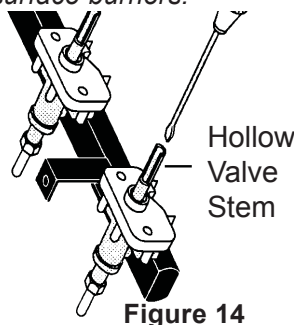

Figure 14
- Insert a thin-bladed screwdriver into the hollow valve stem and engage the slotted screw inside. Flame size can be increased or decreased with the turn of screw. Turn counterclockwise to increase flame size. Turn clockwise to decrease flame size (Figure 14).